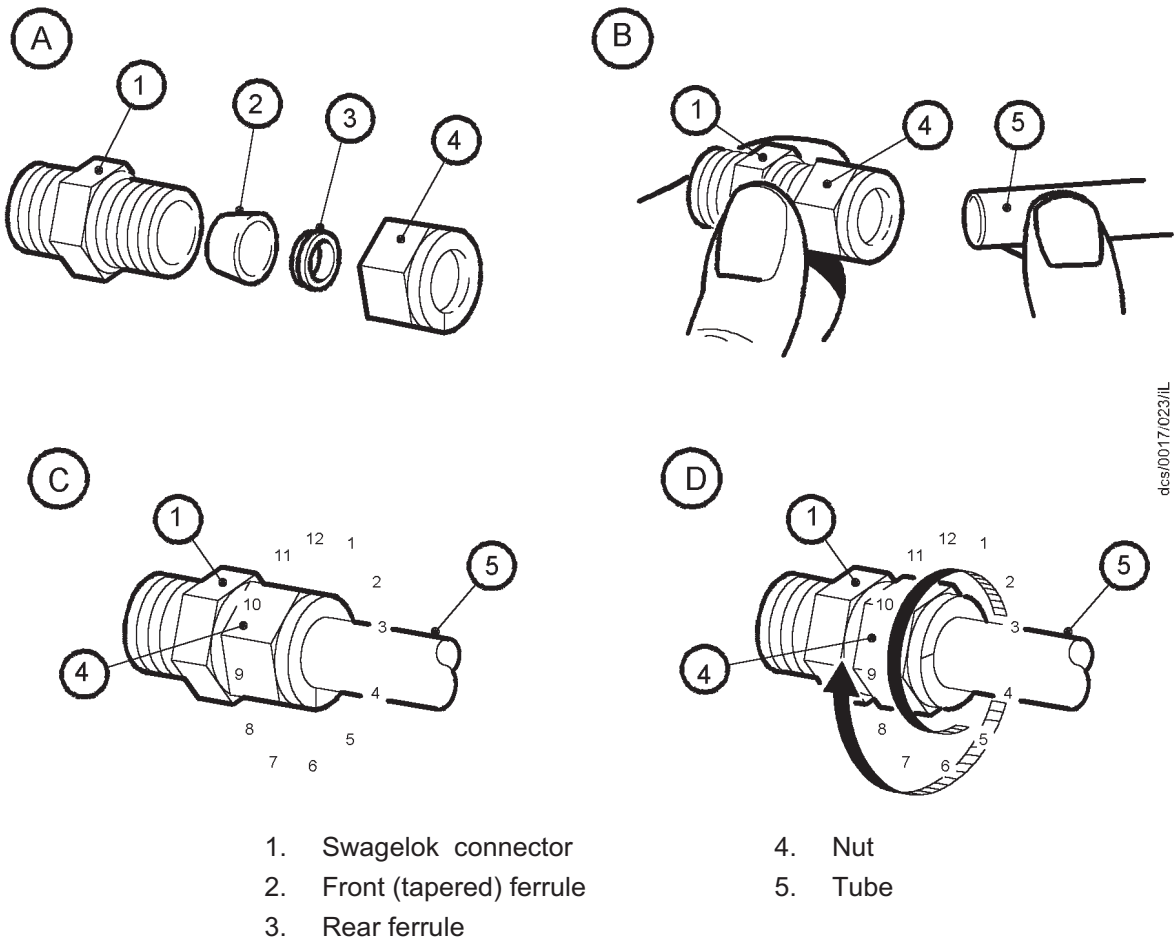

Figure 6-1 - Fit a Swagelok fitting
1. Refer to Figure 6-1 detail B. Insert the tube (5) through the nut (4) and into the Swagelok connector (1). Ensure that the tube rests firmly on the shoulder inside the fitting, and that the nut (4) is finger tight.
2. Tighten the nut (4) until you cannot rotate the tube (5). If you cannot turn the tube because of how it is installed, tighten the nut by  $\frac{1}{8}$ th of a turn.
3. Refer to detail C. Mark the nut (4) at the six o'clock position.
4. Refer to detail D. Hold the body of the connector steady, then turn the nut (4) by  $1\frac{1}{4}$  turns (to the nine o'clock position) to fully tighten the connection.